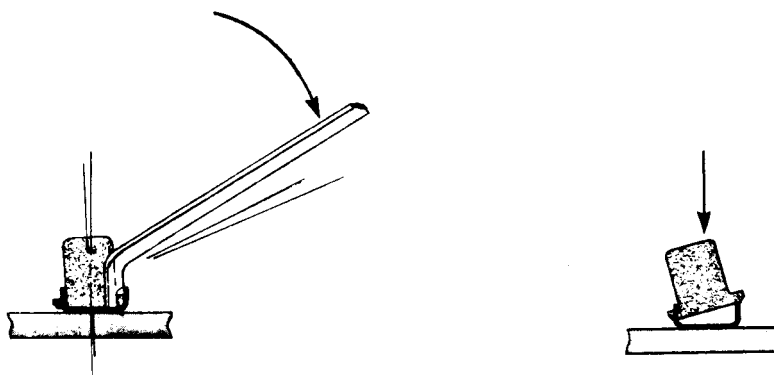

Figure 7 - CA18157 Receptacle Barrel Replacement
Step 2. Apply a downward pressure on the tool to snap the barrel out of the cage see Figure 7).